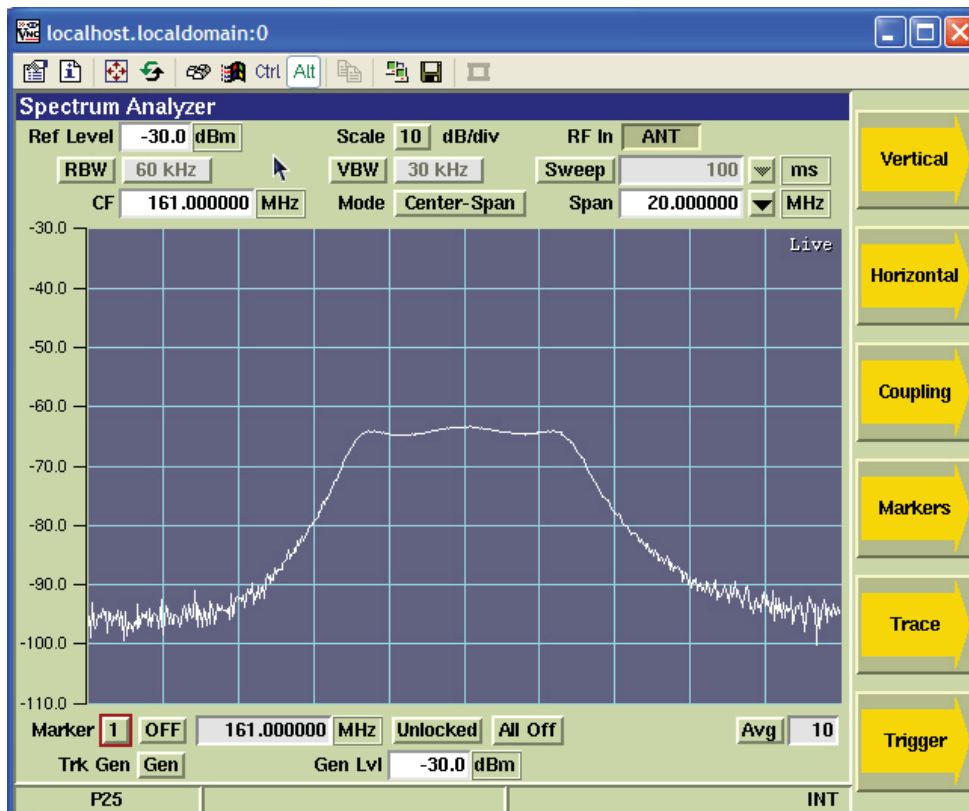

Figure C-15: Receiver RF Preselector on the Spectrum Analyzer
On the IFR 3920, recall Codan setup 03 (Rx Preselector Tune) from your internal drive. If Trk Gen does not appear on the lower left corner of the display, then the IFR 3920 does not have the tracking generator option. Enter the correct RF frequency as the Center Frequency (CF) and ensure the receiver is turned on. The filter waveform should appear as shown in Figure C-15. Turn the Markers on to add optional markers to the spectrum analyzer if desired.